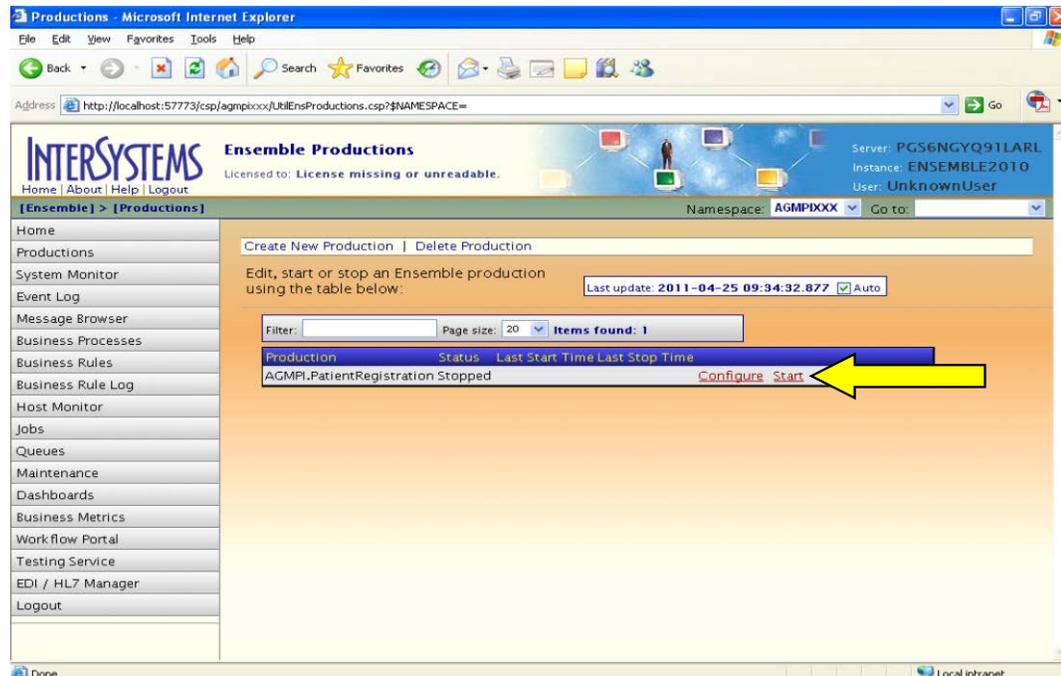

Figure 9-6: Start a production instance by clicking the **Start** link
2. To start a production, Click the **more...** link to display the **Ensemble Productions** page, as shown in Figure 9-6.